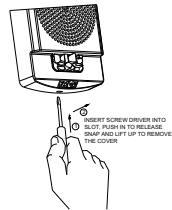

Figure 6: Grille Removal
- To remove the cover, insert a small flat-bladed screwdriver into the bottom opening 1/2" as shown in Figure 6. Then pry off beauty cover with the screwdriver.